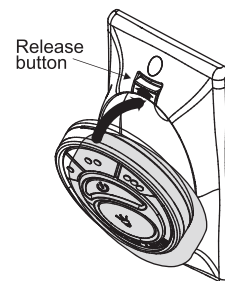

Fig. 20
1. Insert the transmitter into the wall plate by inserting the bottom of the transmitter first and then press the top of the transmitter into the pocket. The transmitter will fully function from this location or you can remove the transmitter and use as a "Hand Held" device. (Fig. 20)